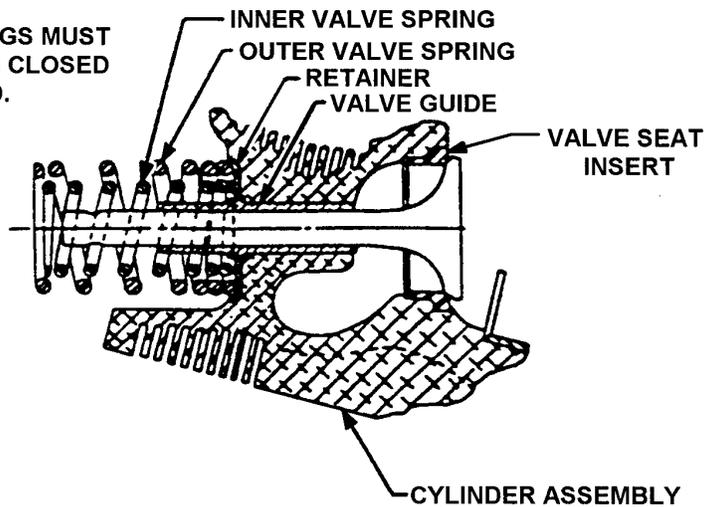

FIGURE 16-16. VALVE AND SPRING INSTALLATION
until it is firmly seated. Install new inner and outer valve springs (13, 14) and new rotocoils (16). The valve springs must be installed with the closed coils toward the cylinder head as shown in Figure 16-16, "Valve and Spring Installation."